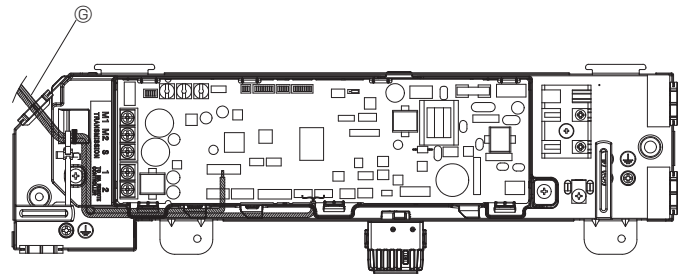

Fig. 5-5
3. Insert the lead wire of the optional VALVE KIT into the indoor unit through the wiring insertion port. (Fig. 5-5)